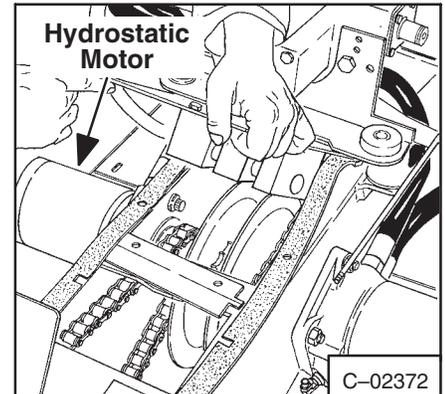

Fig. 4-9 Motor Mounting Bolts
9. Loosen the right hydrostatic motor (Fig. 4-9) from the transmission case and move the motor out. Move the motor only far enough to pull the brake discs out of the load.